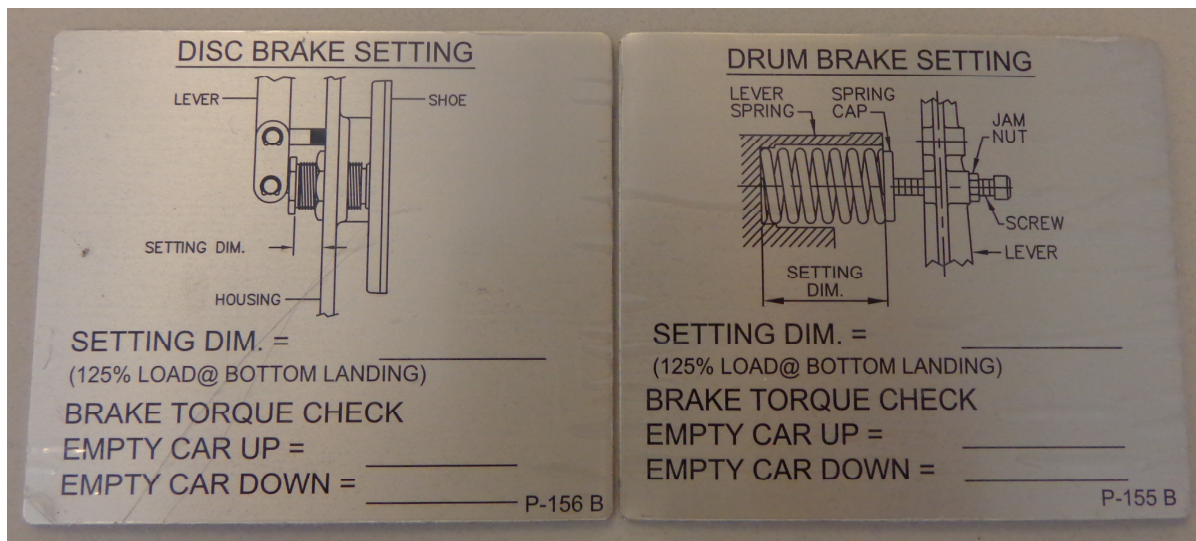

Figure 2 - Hollister-Whitney Brake Tags, Blank
- Hollister-Whitney Brake Tags (see Figure 2):
- Refer to Figure 2. Using a scribe, punch, engraver or other permanent marking instrument, permanently record Torque on the appropriate Brake Tag in the spaces provided.
- Compare newly recorded Torques to Benchmarked Torques recorded on Brake Tag. Refer to Figure 2.